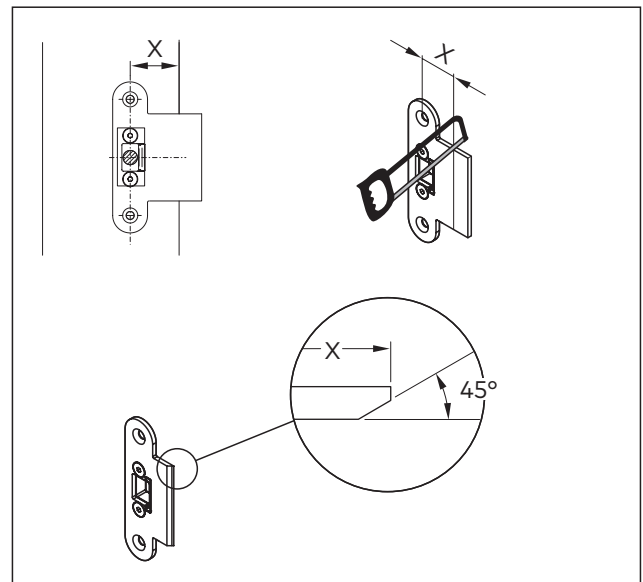

Fig. 52 Dimensions of the adjustments
- 16.** Adjust the rod striking plate (Abb. 52).